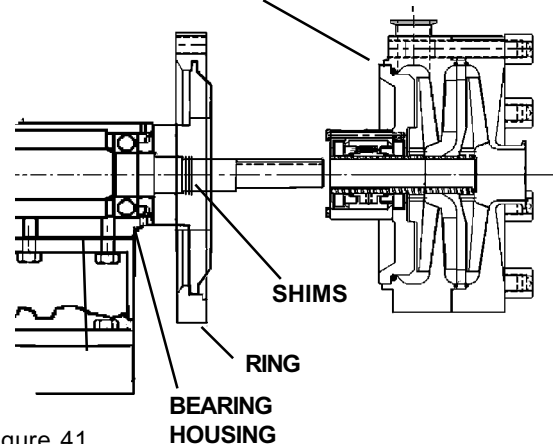

Figure 41
1. Remove multistage assembly. See pages 18 and 19. Remove shims. (Figure 41)